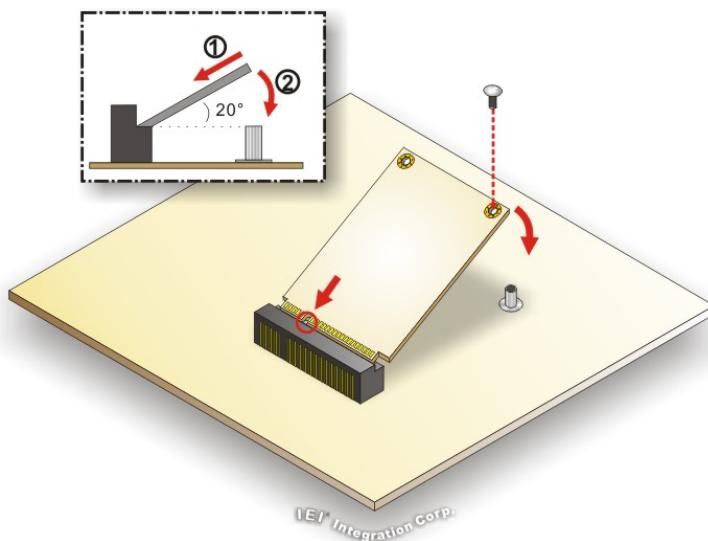

Figure 4-4: PCIe Mini Card Installation (Full-size)
- Step 3:** Push the other end of the PCIe Mini card down and secure the card with the previously removed retention screw (**Figure 4-4**).